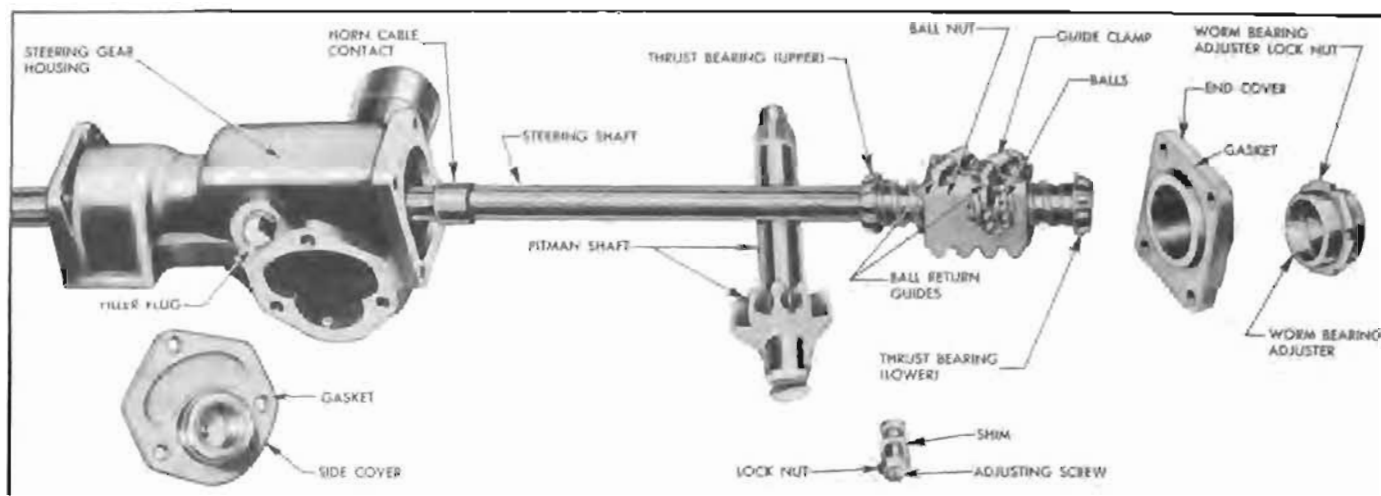

Figure 7-12—Steering Gear Disassembled
5. Loosen adjusting screw lock nut, then remove housing side cover with pitman shaft attached. Remove gasket. Separate pitman shaft from side cover by unscrewing the adjusting screw. See figure 7-12.